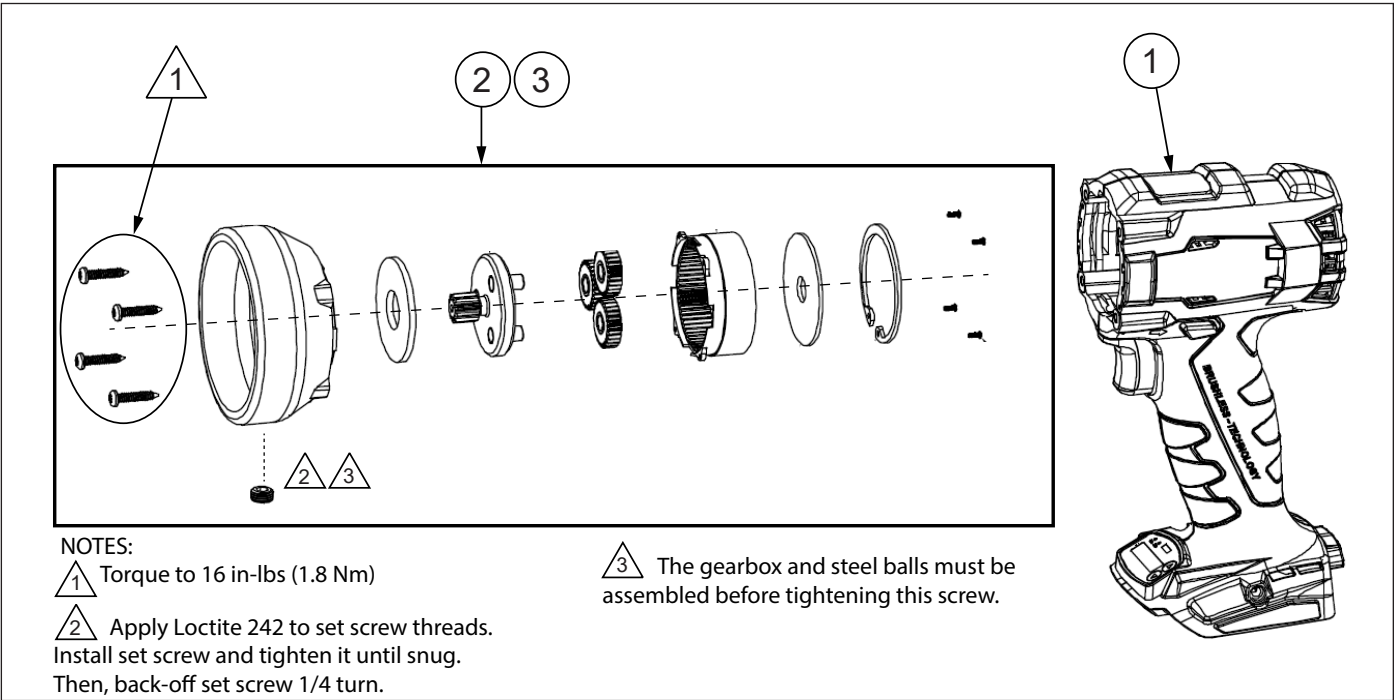

Figure 6: Handle Adaptor Kit
9.1.1 Table of Parts (Figure 6)